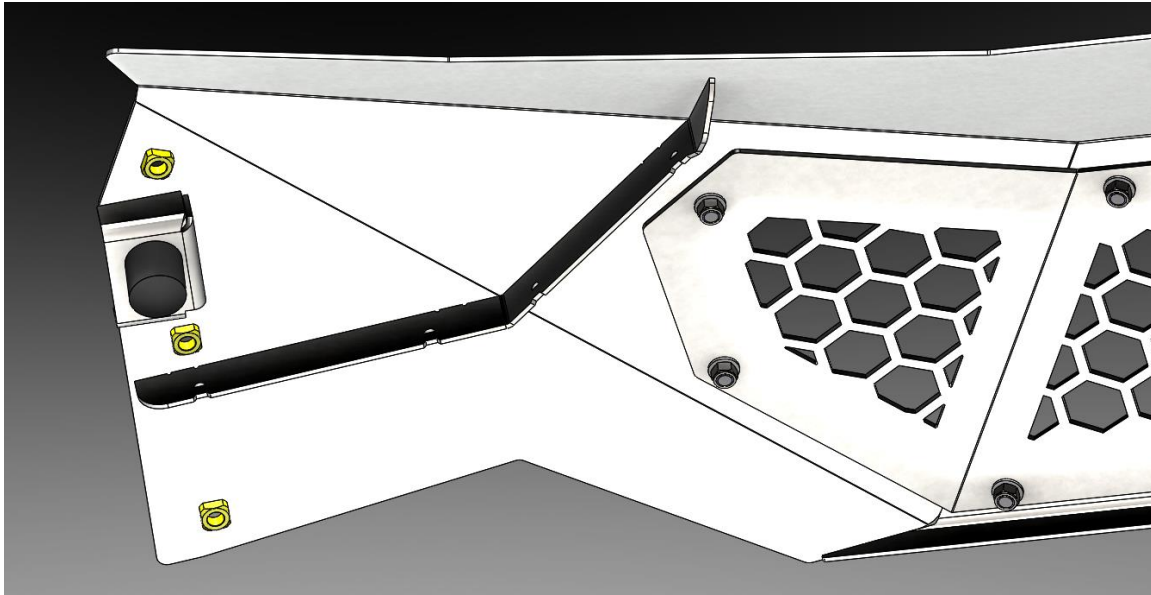

Fig 8
- Install and hand tighten the rubber bumpers and $\frac{1}{2}$ " flat washers to the visor as shown in **Fig 8**.